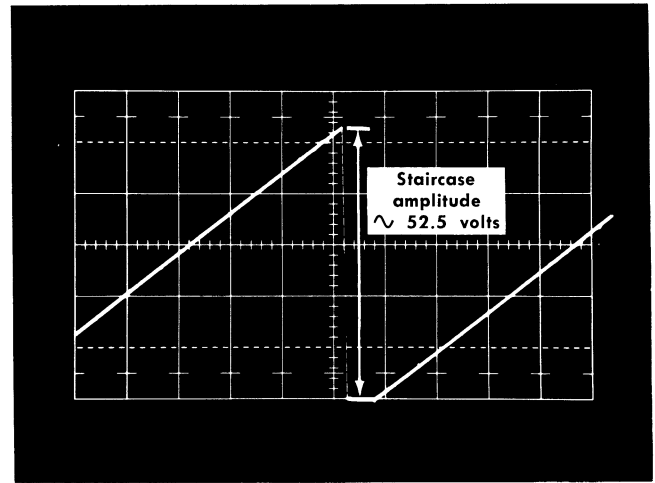

Fig. 5-13. Staircase waveform for setting SWEEP LENGTH control (R612).
- d. **Check** for a staircase amplitude of 51 to 55 volts, measured from the zero reference level just set (see Fig. 5-13). (Be sure the vertical gain of the test oscilloscope is calibrated at that voltage.)